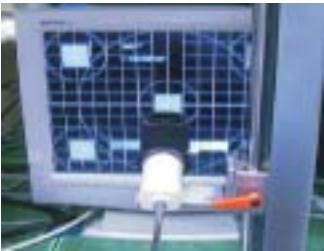

Fig. 1
- 2 .1 Aim the probe CA-A30 at the center of screen as Fig. 1